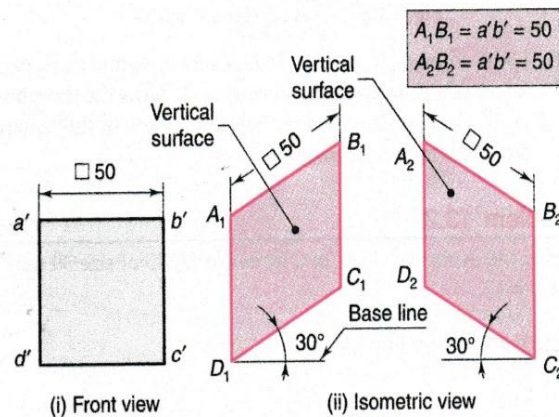

Fig. 13.7 Views of a square lamina
**Solution** Refer Fig. 13.7 and 13.8